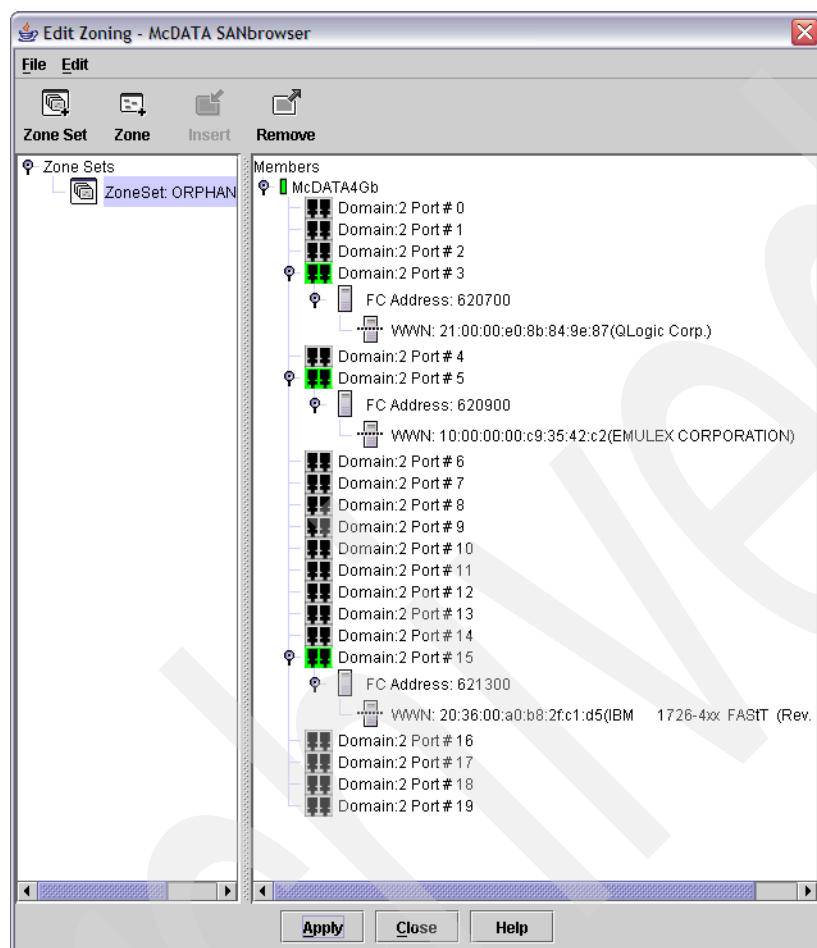

Figure 24-4 Edit Zoning
1. Select **Zoning** → **Edit Zoning** from the menu bar to open the Zoning configuration (Figure 24-4).